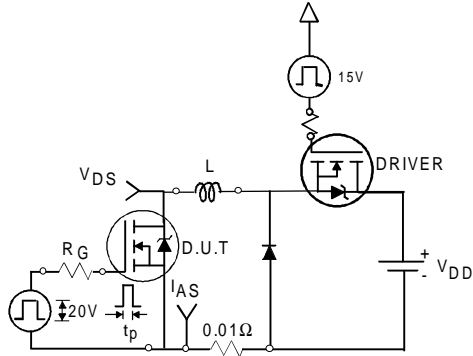

Fig 12a. Unclamped Inductive Test Circuit
3. Equation below based on circuit and waveforms shown in Figures 12a, 12b.
- ⑤ C_{oss} eff. is a fixed capacitance that gives the same charging time as C_{oss} while V_{DS} is rising from 0 to 80% V_{DSS} .
- ⑥ Calculated continuous current based on maximum allowable junction temperature. Package limitation current is 75A.
- ⑦ Limited by T_{Jmax} , see Fig.12a, 12b, 15, 16 for typical repetitive avalanche performance.